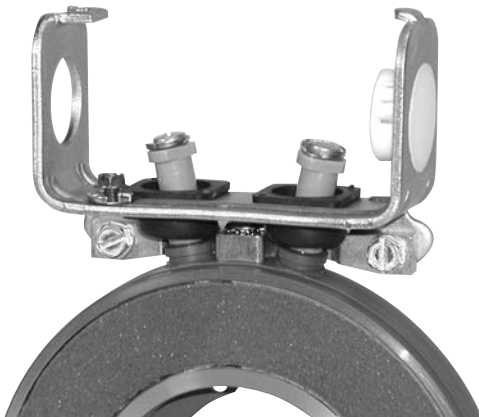

Figure 12
Mount conduit box to bracket. The conduit box flange must be toward flange side or the magnet (rear of bracket). Thread terminal spacers into field/magnet before fastening conduit box to bracket. Do not over tighten, excessive torque will pull thread insert out of magnet/field. Secure conduit box to bracket with two No. 10-32 hex washer head screws (4). (See Figure 12)